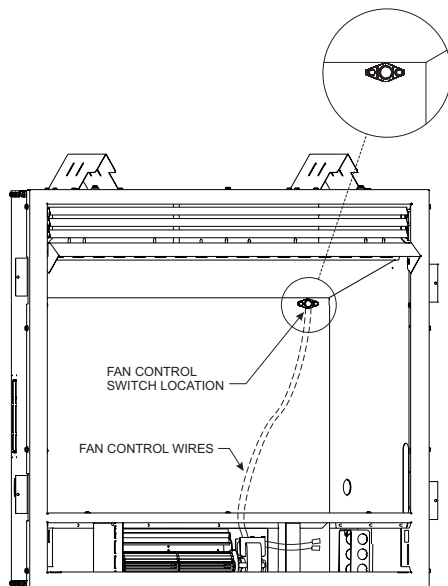

Figure 23
6. Next, find the fan control switch and wire assembly. Feed the wires through the hole at the top of the firebox, and secure the fan control switch with (2) #6 screws provided. **See Figure 23.**